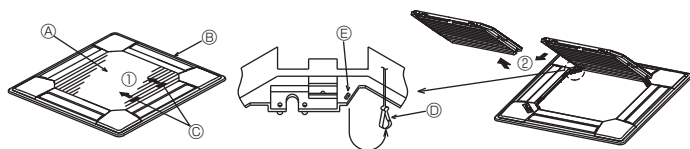
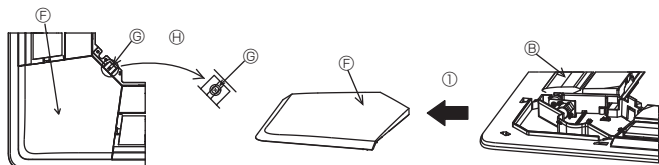

Fig. 5-3
Fig. 5-4
5.2.1. Removing the intake grille (Fig. 5-3)
- Slide the levers in the direction indicated by the arrow ① to open the intake grille.
- With the intake grille in the "open" position, remove the hinge of the intake grille from the grille as indicated by the arrow ②.
5.2.2. Removing the corner panel (Fig. 5-4)
- Remove the screw from the corner of the corner panel. Slide the corner panel as indicated by the arrow ① to remove the corner panel.
[Fig.5-3, 5-4]